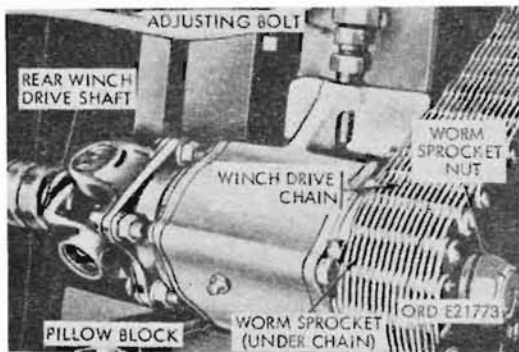
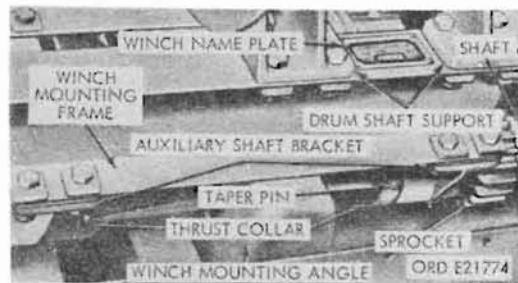
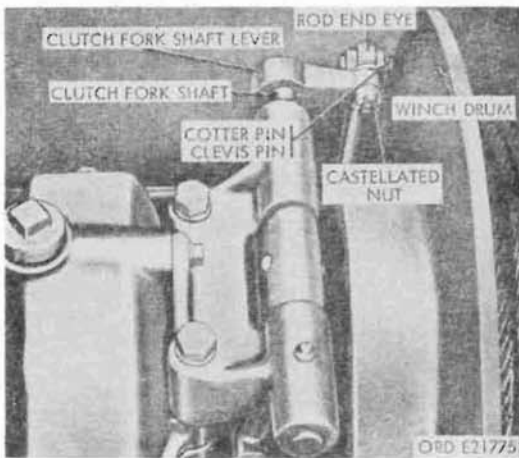

Figure 338. Pillow block and winch drive chain
Figure 339. Rear winch auxiliary shaft and sprocket
Figure 340. Rear winch control linkage - at winch
- (1) Removal. Move chain until chain-connecting long and short pins are accessible. Remove tension of pillow block (fig. 338) on winch drive chain by loosening hex-head bolt on side of pillow block. Remove cotter pin from end of long pin, and remove long and short pins from chain. Remove chain from pillow block and worm sprockets.
- (2) Installation.
Install chain on pillow block and worm sprockets with free ends of chain in an accessible place. Connect ends of chain with long and short pins, and cotter pin. Using hex-head bolt and jamnut on the side of the pillow block (fig. 338), adjust the chain tension to less than taut to minimize the whipping action of the chain during winch operation.
d. Rear Winch Worm Sprocket (Fig. 338).
- (1) Removal. Remove winch drive chain (c above). Remove wire from worm sprocket screw and spacer on end of left-hand worm shaft, and remove screw and spacer from shaft. Pull sprocket from worm shaft with a suitable puller. Tape key in shaft keyway to prevent its loss.
- (2) Installation. Install sprocket on worm shaft over key and secure with sprocket spacer and screw. Tie spacer and screw with 0.041-inch diameter wire. Install winch drive chain (c above).
f. Rear Winch Auxiliary Shaft Sprockets (Fig. 339).
- (1) Removal. Remove winch cover (a above). Remove auxiliary shaft drive chain (e above). Remove auxiliary shaft (g below). Loosen setscrew securing auxiliary shaft sprocket on shaft, and remove sprocket. Tape key in shaft keyway to prevent loss of key.
- (2) Installation. Install sprocket on auxiliary shaft over key, and tighten setscrew to secure sprocket in place. Install auxiliary shaft drive chain (e above). Install winch cover (a above).
(fig. 339). Remove auxiliary shaft from auxiliary shaft brackets, and remove thrust collars from shaft. Remove cotter pin and clevis pin, and disconnect control lever rod at cross-shaft left arm (fig. 340). Remove winch drive chain (c above). Remove pillow block (fig. 338). Remove four nuts, lockwashers, and bolts holding winch-mounting frame to winch mounting-angles (fig. 339). Using a chain hoist, remove winch from body. Remove part of control lever linkage (par. 306) remaining on winch.
- (2) Installation. Install part of control lever linkage (par. 306) attached directly on winch. Using a chain hoist, install winch with winch-mounting frame resting on mounting angles. Secure winch frame to mounting angles with four hex-head bolts, lockwashers, and hex-nuts. Install pillow block (fig. 338). Install winch drive chain (e above). Connect control lever rod to cross-shaft left arm with clevis pin and cotter pin. Install auxiliary shaft through right-hand auxiliary shaft bracket. Install two thrust collars on left end of shaft and slide shaft through other bracket. Aline taper pin holes in collars to holes in shaft, and install taper pins. Install auxiliary shaft drive chain (e above). Install winch cover (a above). Install winch cable (b above).
Remove cotter pin (D), castellated nut (B) and flat washer (C) holding rod-end eye (AA) on clutch-fork shaft lever (BB), and remove eye. Remove taper pin (E) holding shaft lever (BB) to clutch fork shaft (CC), and remove lever. Loosen nuts (Z) on arms (K and P) of cross-shaft (N) extending through winch-mounting frame (fig. 339) and remove arms from shaft. Remove woodruff keys (M) from cross-shaft, and remove shaft from mounting frame.
b. Installation. Install cross-shaft (N) in winch-mounting frame. Install two woodruff keys (M) in shaft. Install shaft left (P) and right (K) arms on shaft over keys. Tighten nuts (Z) on arms. Install clutch fork shaft lever (BB) on clutch fork shaft (CC) with taper pin (E). Install rod-end eye (AA) in clutch fork-shaft lever (BB) with a flat washer (C), castellated nut (B) and cotter pin (D).